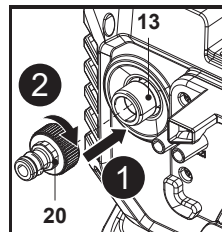

Fig. 6
Align and screw the water inlet adaptor (20) onto the water inlet connector (13) at the back of machine (Fig. 6, steps 1, 2).